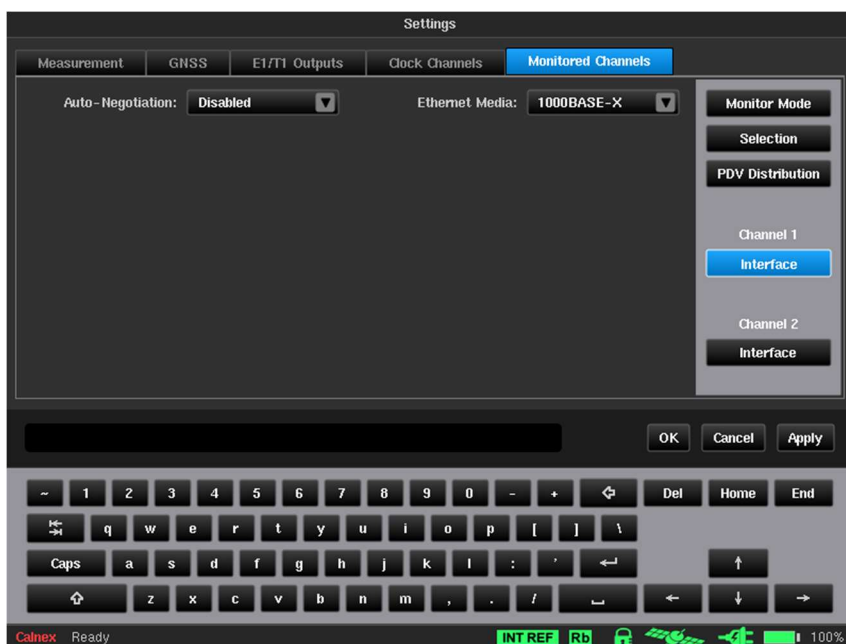

Figure 44 - Interface Page of a Monitored Channel
- **Interface** for each channel – clicking this opens an **Interface** page (Figure 44) within the **Monitored Channels** tab, which lets you configure the **Auto-Negotiation** and **Ethernet Media** settings of the monitored channel.